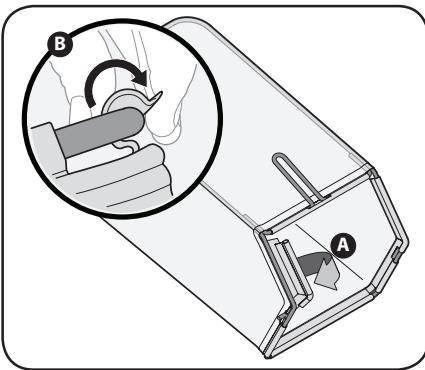

Figure 2-7
- Follow steps below to assemble the grass catcher (if needed). Make certain bag is turned right side out before assembling (warning label will be on the outside). See Figure 2-7.